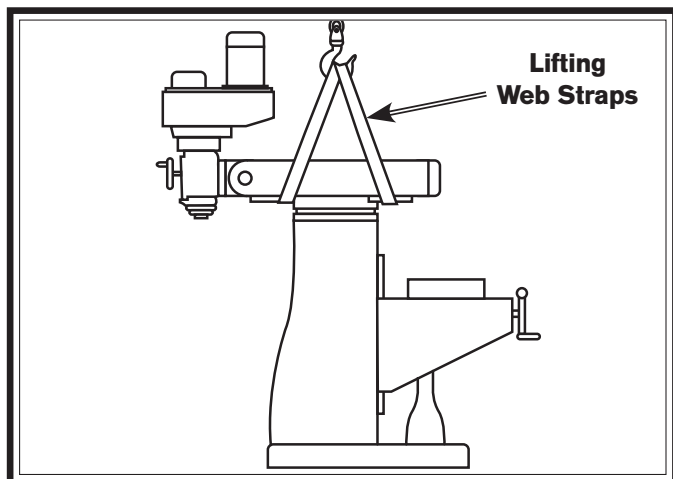

Figure 6. Using web straps to lift the mill.
1. Swing the ram around 180° from the position that it was shipped in, then rotate the head upright, as illustrated in **Figure 6** (refer to **Ram Movement** on **Page 36** and **Headstock Movement** on **Page 32** for detailed instructions).
2. Place the lifting web straps under the ram and connect them to the safety hook, as illustrated in **Figure 6**.